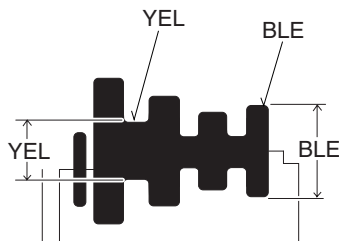

Fig. 6-1
6.4 B (Blue) Matrix Adjustment (Fig. 6-1)